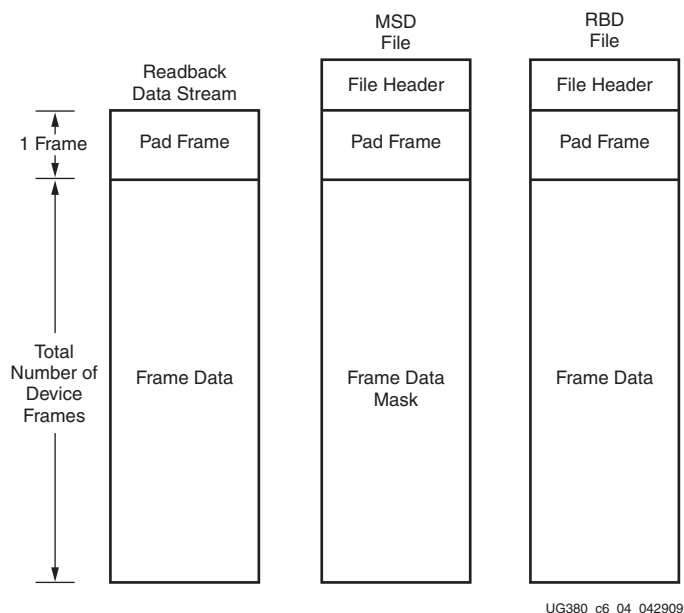

Figure 6-4: Comparing Readback Data Using the MSD and RBD Files
1. Compare readback data to the RBD *golden* readback file. Mask by using the MSD file (see Figure 6-4).